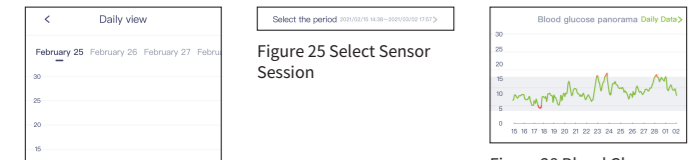

Figure 25 Select Sensor Session
- Select sensor session, as shown in Figure 25.